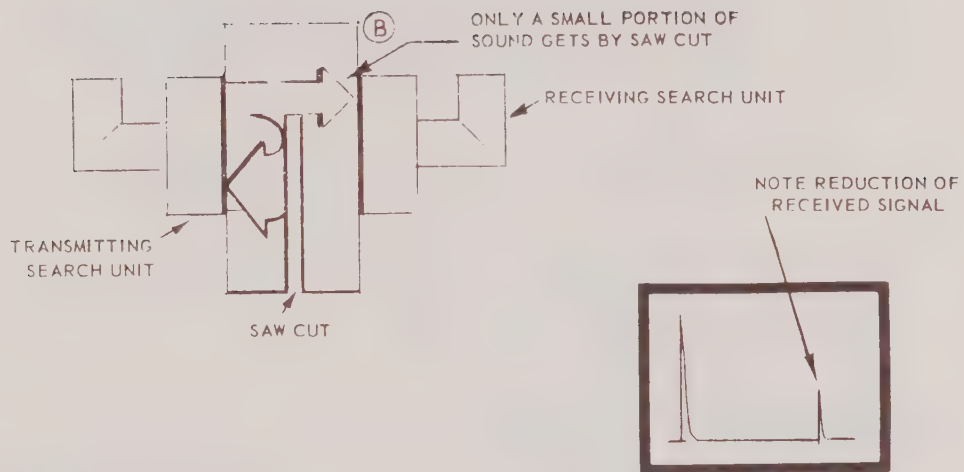

Figure 3-22 Thru Transmission - Position B
- f. Move search units to position B (Figure 3-22). Note that the indication from the receiving search unit is reduced in size or completely deleted. The sound traveling through the block is obstructed by the saw cut and, therefore, less energy reaches the receiving search unit.